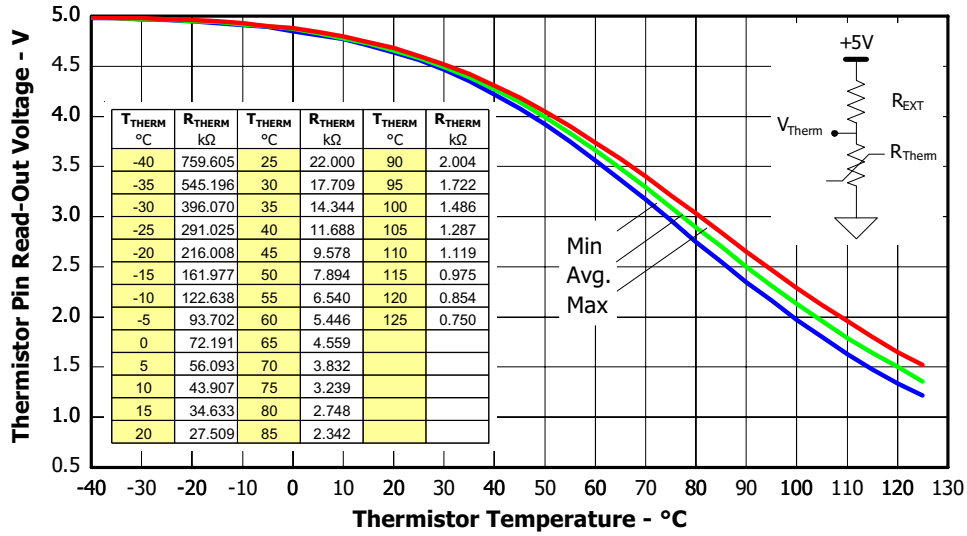

Figure 9. Thermistor Readout vs. Temperature (2kohm pull-up resistor, 5V) and Nominal Thermistor Resistance values vs. Temperature Table.
3. Value of the boot-strap capacitors depends upon the switching frequency. Their selection should be made based on IR design tip DN 98-2a, application note AN-1044 or Figure 9.